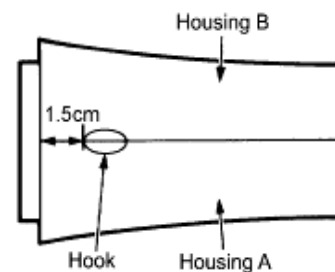

Fig.3
- (1) Assemble the housing A and B by snapping the hook as shown in Fig.3.